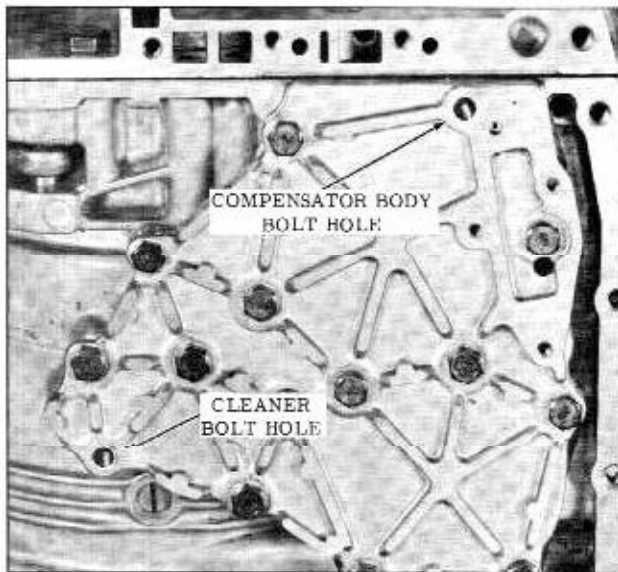

Fig. 3-130 Accumulator Cover Bolt Location
13. Install 8 servo and accumulator cover bolts. Leave the remaining bolts out. (Fig. 3-130) Torque 6 to 8 ft. lbs.